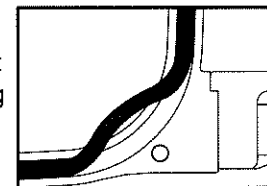

Fig.12
- When installing the O-ring, make certain that the O-ring is properly seated in the O-ring groove (Fig. 12).